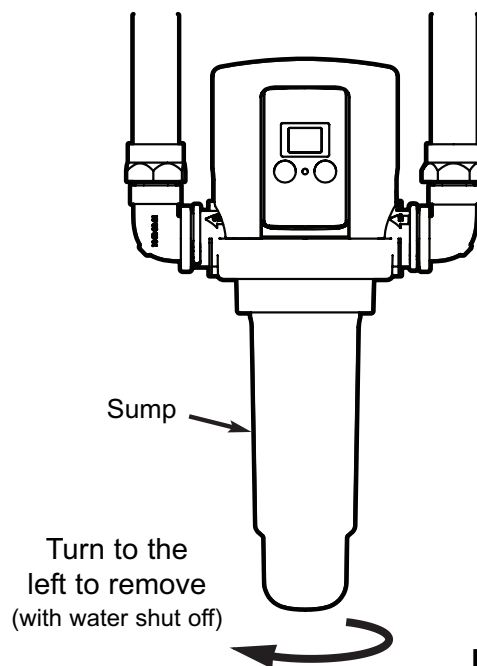

FIG. 18
4. Remove the sump by turning it to the left to unscrew it from the ASF head (See Figure 18). Be prepared for water to drip out of the ASF head when the sump is removed.